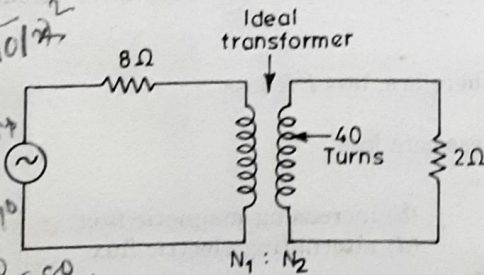

Fig. C.42.
19. If the secondary winding of the ideal transformer shown in the circuit of Fig. C.42 has 40 turns, the number of turns in the primary winding for maximum power transfer to the 2Ω resistor will be